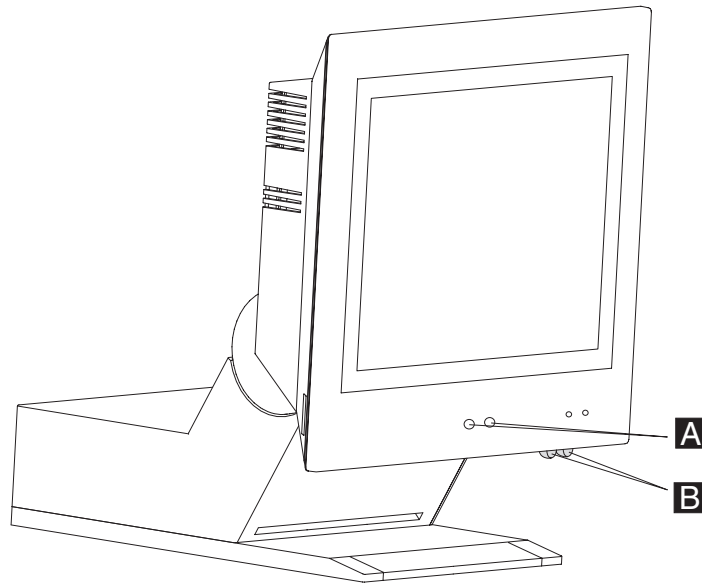

Figure 152. Location of presence sensor
1. Hold an object (preferably a white object for best reflectivity) at the distance from the sensor at which you want the sensor to detect presence. Refer to **A** Figure 152 to locate the presence sensor.